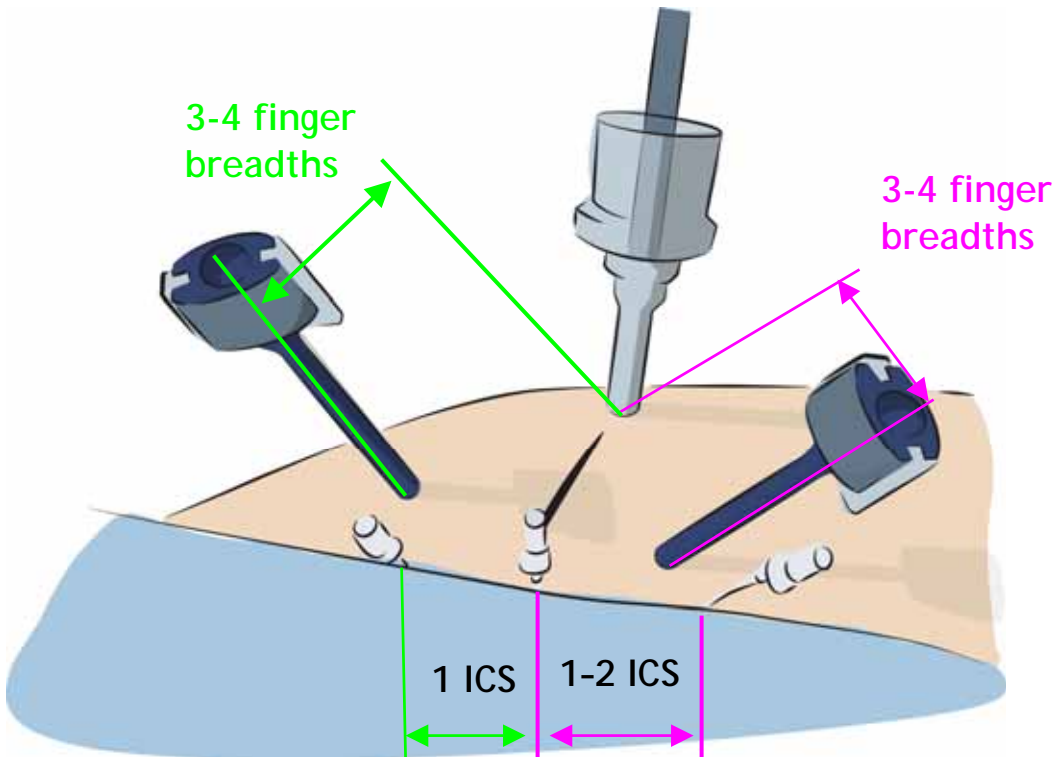

Figure 10: Triangular placement of camera port, working port and instrument arm ports
- Create the right instrument-arm port in either the 5th or 6th ICS (caudal of camera port). In large males, one ICS is satisfactory but two interspaces is ideal to allow easy access for the assistant to the working port [Figure 10]. Typical position of this port is either on the AAL or slightly medial of AAL (keep 3-4 finger breadth between camera port and right instrument arm port).
- With this set up, the position of the *da Vinci* ports describe a triangle with the camera port so that there is sufficient space for the instruments arm to work without interference. The standard port placement for the camera and *da Vinci* instrument ports looks as follows [Figure 10].